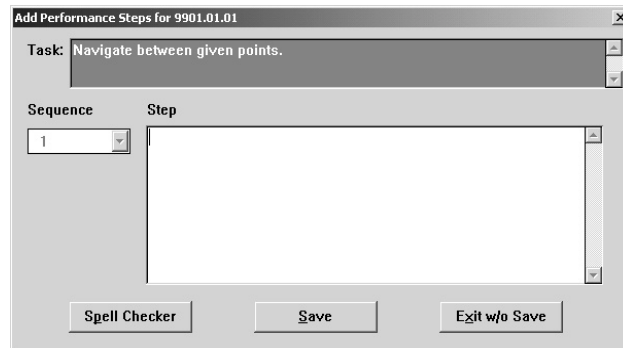

Figure 6-31. Add Performance Steps
1. From the Performance Steps selection list box (Figure 6-30), click on **Add**. The Add Performance Steps dialog box (Figure 6-31) opens.
2. Click on **Edit**. A dialog box similar to the one in Figure 6-31 opens.